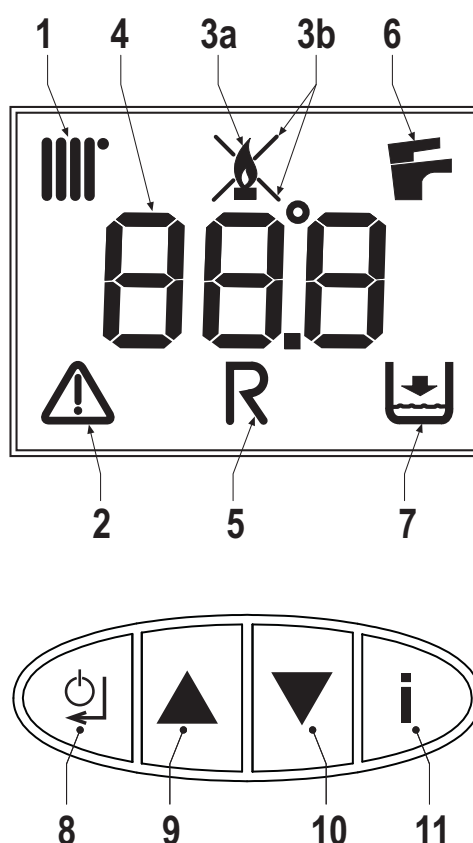

fig. 1 - Control panel
A heating demand (generated by Request Contact, Room Thermostat or Remote Timer Control) is indicated by activation of the radiator (detail 1 - fig. 1).
The multifunction display (detail 4 - fig. 1) shows the heating sensor temperature and, during heating standby time, the message "d2".
A DHW demand (generated by drawing hot water) is indicated by activation of the faucet (detail 6 - fig. 1).
The multifunction display (detail 4 - fig. 1) shows the DHW sensor temperature and, during DHW standby time, the message "d1".
Press the on/off button (detail A - fig.1) for 5 seconds.
When the device is turned off, the PCB is still powered. Domestic hot water and heating are disabled. The frost protection system remains activated. To switch the device on again, press the on/off button (detail A - fig.1) for 5 seconds.
To access the user settings menu, press the Info button (detail 11 - fig. 1).
Press the Info button (detail 11 - fig. 1) until displaying the parameter **u01** of the user settings menu.
Press Enter (detail 8 - fig. 1): the actual value of the parameter **u01** is displayed.
Use the buttons (details 9 and 10 - fig. 1) to adjust the temperature from a min. of 30°C to a max. of 85°C.
Press Enter (detail 8 - fig. 1) to confirm the setting.
Then press the Info button (detail 11 - fig. 1) until exiting the menu.
Press the Info button (detail 11 - fig. 1) until displaying the parameter **u02** of the user settings menu.
Press Enter (detail 8 - fig. 1): the actual value of the parameter **u02** is displayed.
Use the buttons (details 9 and 10 - fig. 1) to adjust the temperature from a min. of 10°C to a max. of 65°C.
Press the Info button (detail 11 - fig. 1) until displaying the parameter **u03** of the user settings menu.
Press Enter (detail 8 - fig. 1): the actual value of the parameter **u03** is displayed.
Use the buttons (details 9 and 10 - fig. 1) to set Summer mode (0) or Winter mode (1).
Press the Info button (detail 11 - fig. 1) until displaying the parameter **u04** of the user settings menu.
Press Enter (detail 8 - fig. 1): the actual value of the parameter **u04** is displayed.
Use the buttons (details 9 and 10 - fig. 1) to set Economy (0) or Comfort (1) mode.
Then press the Info button (detail 11 - fig. 1) to exit the menu.
Press the Info button (detail 11 - fig. 1) until displaying the parameter **u05** of the user settings menu.
Press Enter (detail 8 - fig. 1): the actual max power step is displayed.
Use the buttons (details 9 and 10 - fig. 1) to vary the max power: from 1 (min Step) to 5 (max Step).
Then press the Info button (detail 11 - fig. 1) to exit the menu
Press the Info button (detail 11 - fig. 1) until displaying the parameter **u06** of the user settings menu.
Press Enter (detail 8 - fig. 1): the actual value of the parameter **u06** is displayed.
Use the buttons (details 9 and 10 - fig. 1) to vary the operation methodology:
Press the Info button (detail 11 - fig. 1) until displaying the information **u07** of the user settings menu.